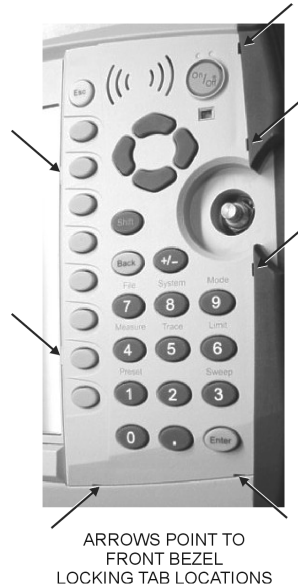

Figure 17. Front Panel Keypad Bezel
2. There are eight locking tabs holding the keypad bezel to the case. Using a small flat-blade screwdriver, carefully pry the front bezel locking tabs free of the main body of the case. This will expose the keypad membrane (Figure 17).